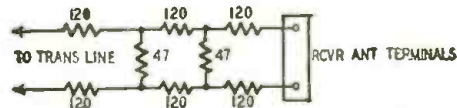

Fig. 4—Attenuation pad for weakening signal.
3. High distorted image, especially when the contrast control is in maximum position. Sound, however, is clear. The contrast control is a gain control employed in the video i.f. system (R131, Fig. 2). If the image can be partially restored to normal by lowering the setting of the contrast control, it is an indication that too strong a signal is being received. Alter the position of the antenna or insert an attenuation pad between end of transmission line and receiver input terminals. (See Fig. 4.)